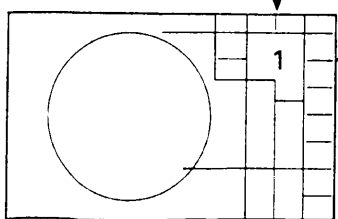

Fig 13.
- 1: Adjust VC101 so that the digit 1 may appear on the effective picture screen, see fig. 13.